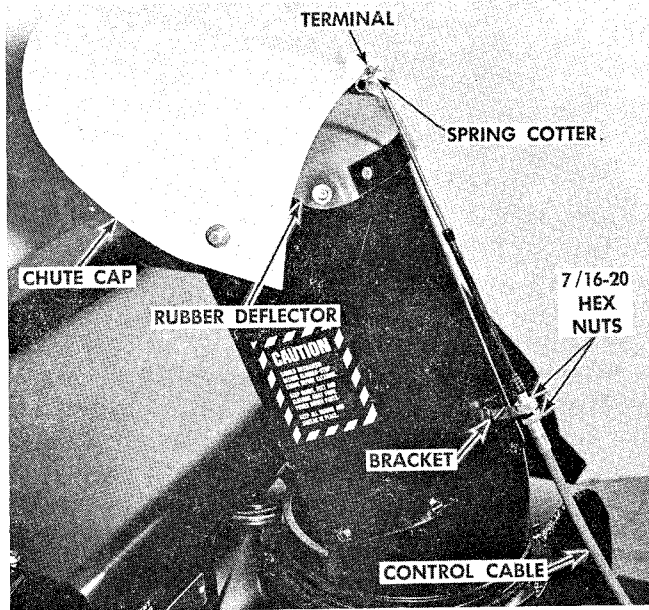

FIGURE 11
9. Loosen 7/16-20 hex nut on chute end of cable jacket. Slide the cable into the slot of the bracket on the chute. Bracket is to be between the two external lockwashers. See figure 11.
10. Tuck rubber deflector inside of chute cap. Leave chute cap all the way forward and push "T" handle in until cable stops. Remove small spring cotter and adjust terminal on end of cable and housing in bracket until pin of terminal freely enters bracket on chute cap. Secure terminal to cap with small spring cotter removed above. Secure hex nut against terminal and lock cable into bracket. See figure 11.